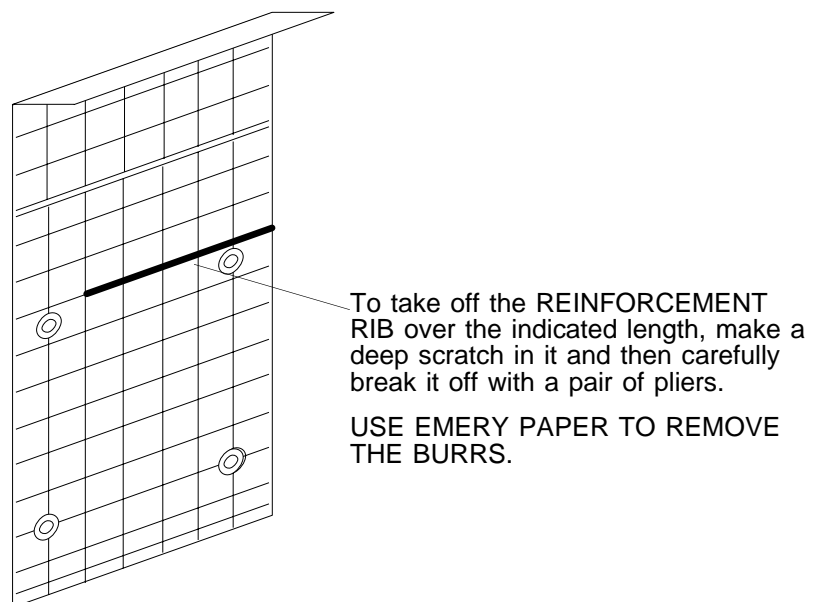

figure 4-5
7. Take off the indicated REINFORCEMENT RIB of the left-hand SIDE PANEL. See figure 4-5 on the next page.